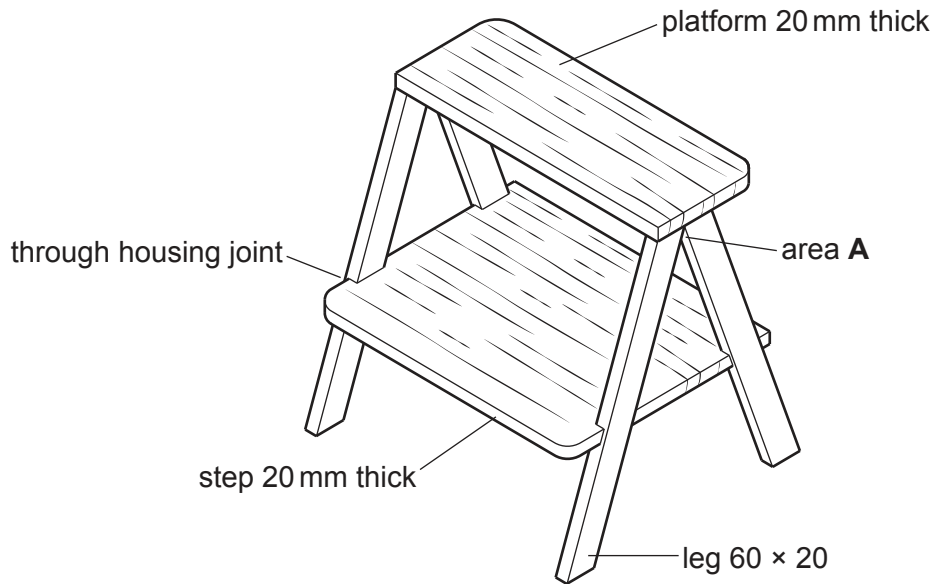
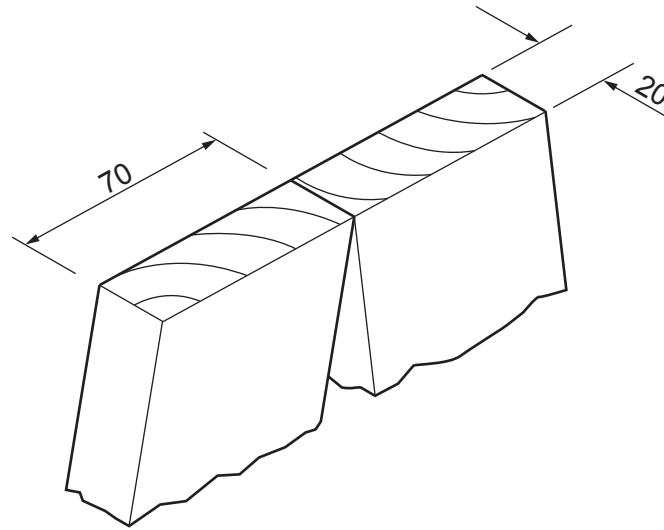

Fig. 11.1
Fig. 11.4
- 11 Fig. 11.1 shows an incomplete design for a step stool made from oak.
- (d) The platform shown in Fig. 11.1 will be joined to the tops of the legs using dowels. Fig. 11.4 shows the tops of two legs.
Draw on Fig. 11.4 to show:
- (e) Area **A** shown in Fig. 11.1 is weak and needs to be strengthened. Use sketches and notes to show how additional materials and constructions could be used to make area **A** stronger and more rigid.